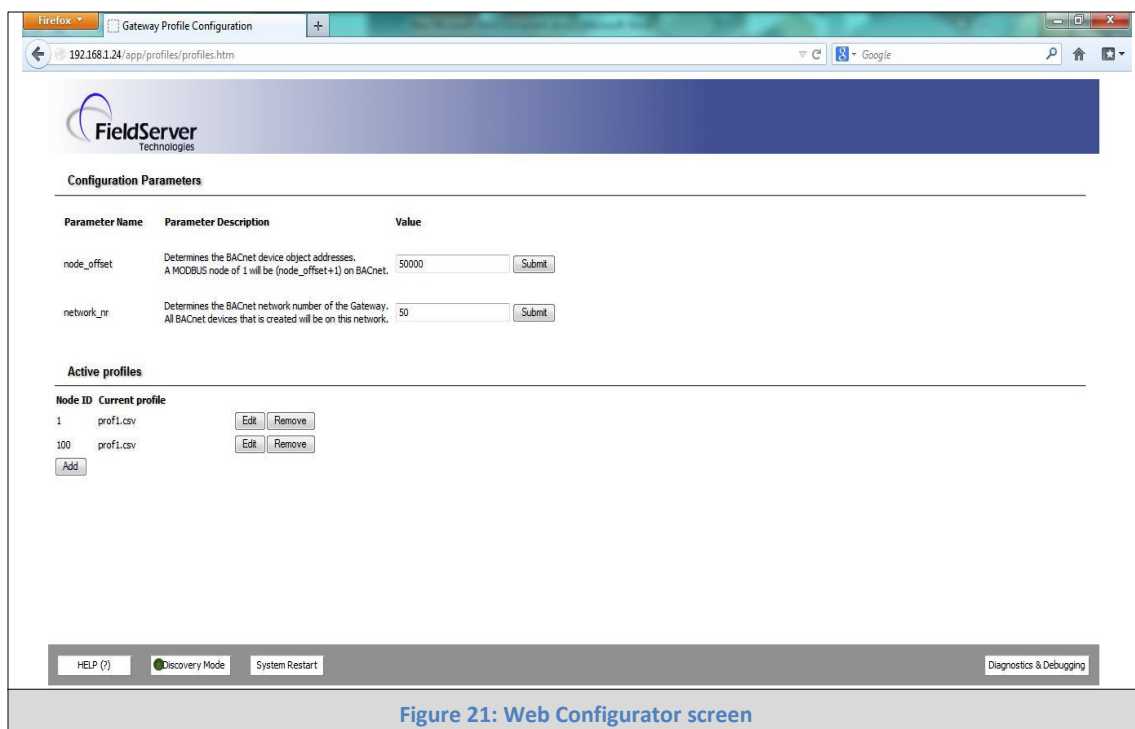

Figure 21: Web Configurator screen
- The Active Profiles section lists the currently active device profiles, including previous Web Configurator additions and any devices identified by Auto-Discovery configuration methods. This list will be empty for new installations, or after clearing all configurations; see Figure 21.
- The Web Configurator will be displayed as your landing page. (Figure 21)